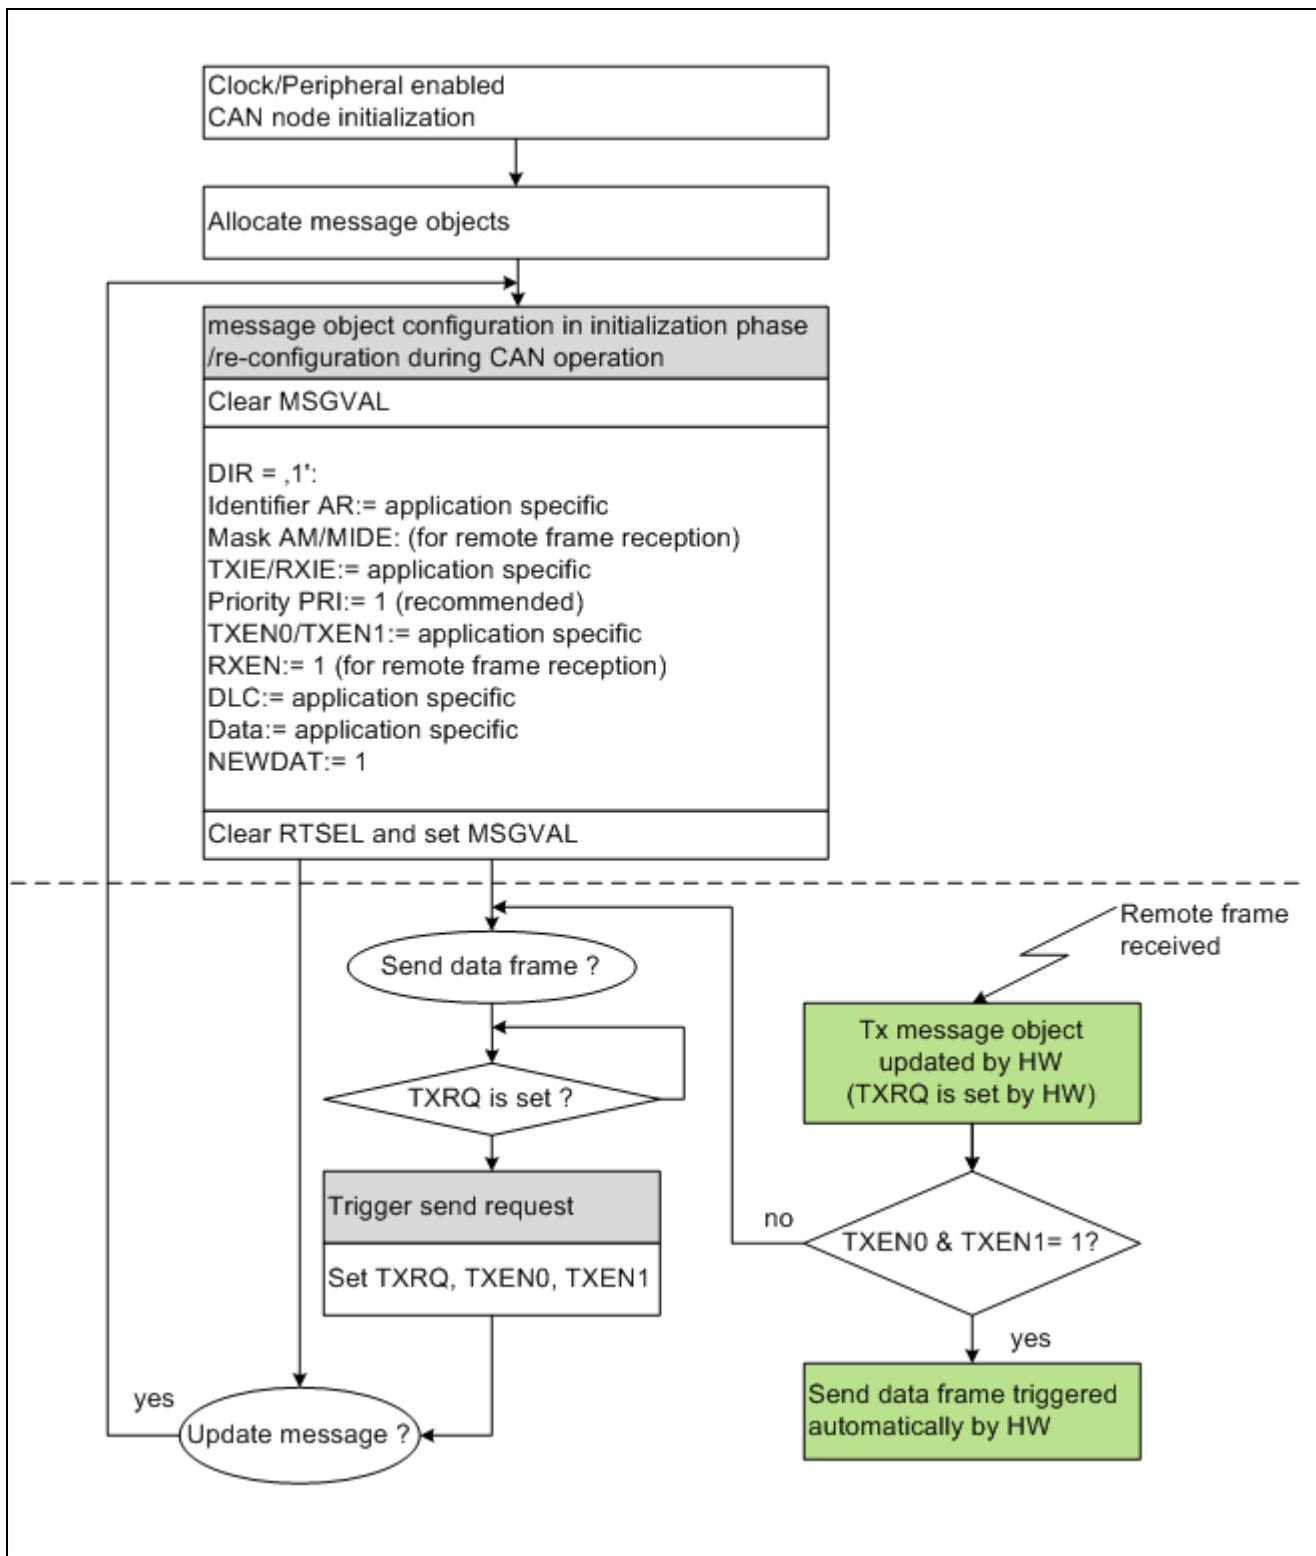

Figure 11 Software handling of a TX message object (DIR='1')
**Figure 11** demonstrates the software handling of a transmit (TX) message object (DIR='1').